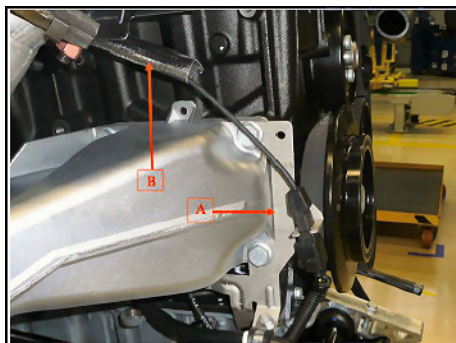

Figure 2
- Replace with the new bracket Part No. 03H 971 501 D (Figure 2, inset A).